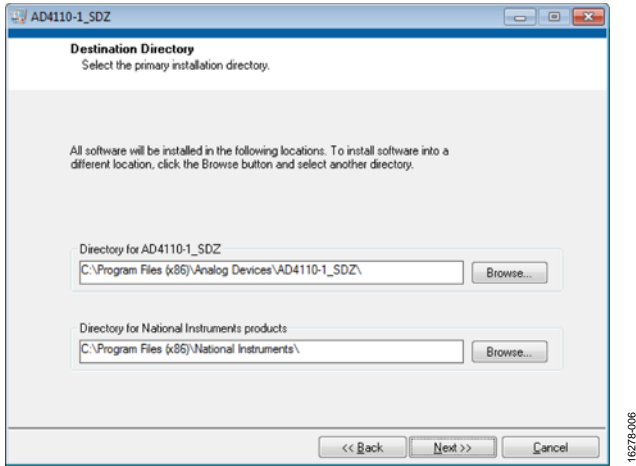

Figure 6. File Location Selection Window
5. Select the location to install the software and click **Next>>**. To select another location, click **Browse...** (see Figure 6).